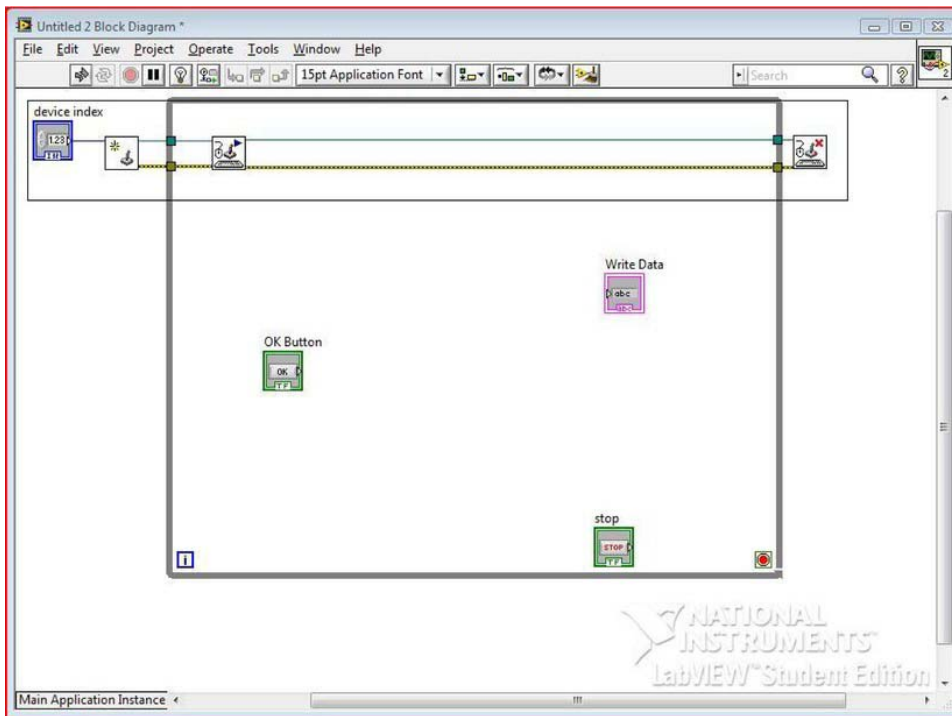

Figure 10-25. Add Input Device Functions to the Block Diagram.
11. After that, right-click the device ID on the left side of the Initialize Joystick Function, and a pop-up menu should appear. Go to Create ► Control on the pop-up menu; this will add a control to your Block Diagram and Front Panel. Figure 10-25 shows adding the Input Device Control Functions to the Block Diagram. (Make sure you leave plenty of space on the Block Diagram, as we still have some functions to add to it.)